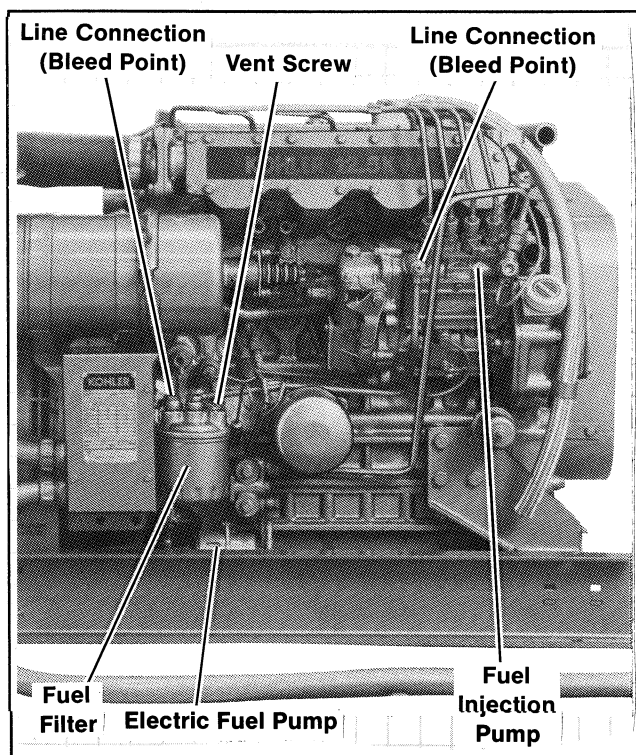

Figure 3-3. Bleeding Fuel System—Yanmar
2. Using priming switch (see Figure 3-3) on controller, operate fuel pump until fuel, free from air bubbles, flows from this point. Tighten line connection.